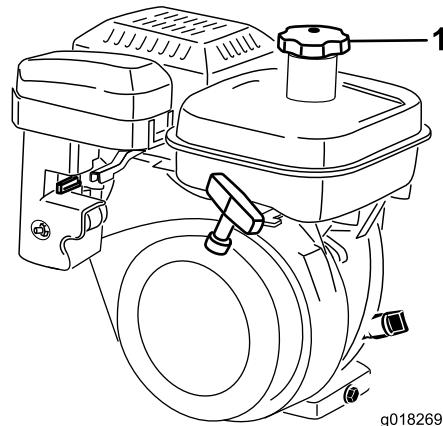

Figure 20
1. Clean around the fuel tank cap and remove the cap from the tank (Figure 20). Using unleaded gasoline, fill the fuel tank no higher than to the bottom of the filter screen. Do not overfill.